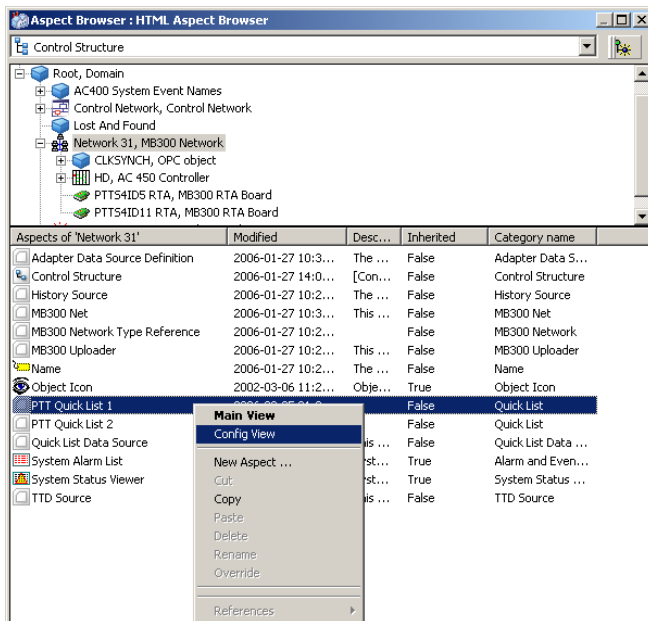

Figure 9. Opening the Quick List
1. Open an existing Quick List aspect by selecting Config View in the Object Browser tool, see Figure 9.